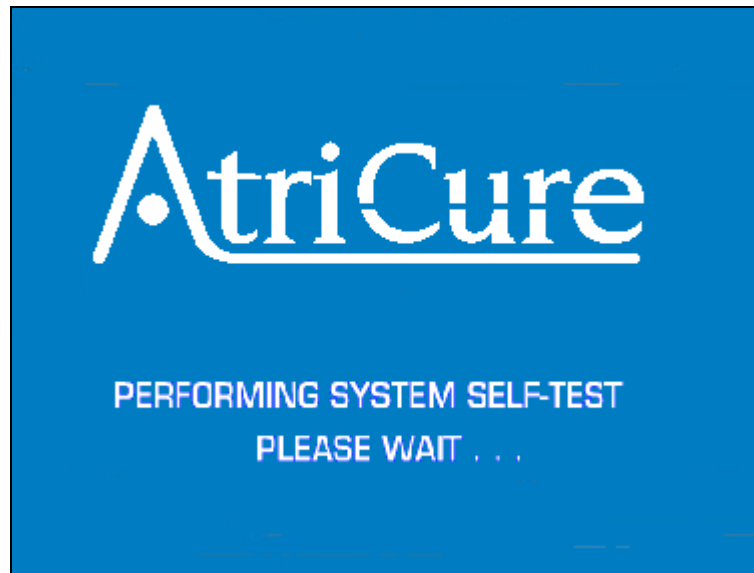

Figure 5 – Display Indicating SELF-TEST
2. Turn the power on using the ON/OFF switch located on the power entry module on the rear panel. When power is turned on; the system performs the System Self-Tests. See Figure 5. If all Self-Tests pass, the system transitions to the STANDBY mode. If any Self-Test fails, the system transitions to the FAULT mode. The Self-Test generates two quick beeps at startup. The operator must verify that the beeps are generated.